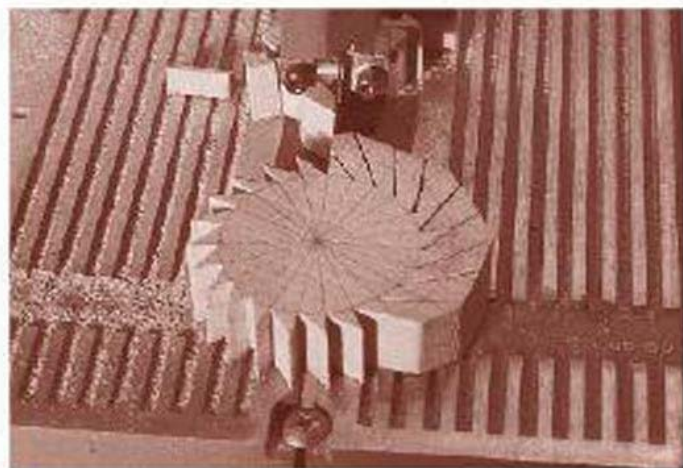

FIGURE 13-5
- 3** With all the lines carefully drawn, move to the hand saw and set to work cutting the teeth. Work at a slow pace, all the while making sure the tooth points occur on the outer circumference (Fig 13-5). Be mindful that perhaps more than anything else, the success of the movement depends on the length and spacing of the teeth.